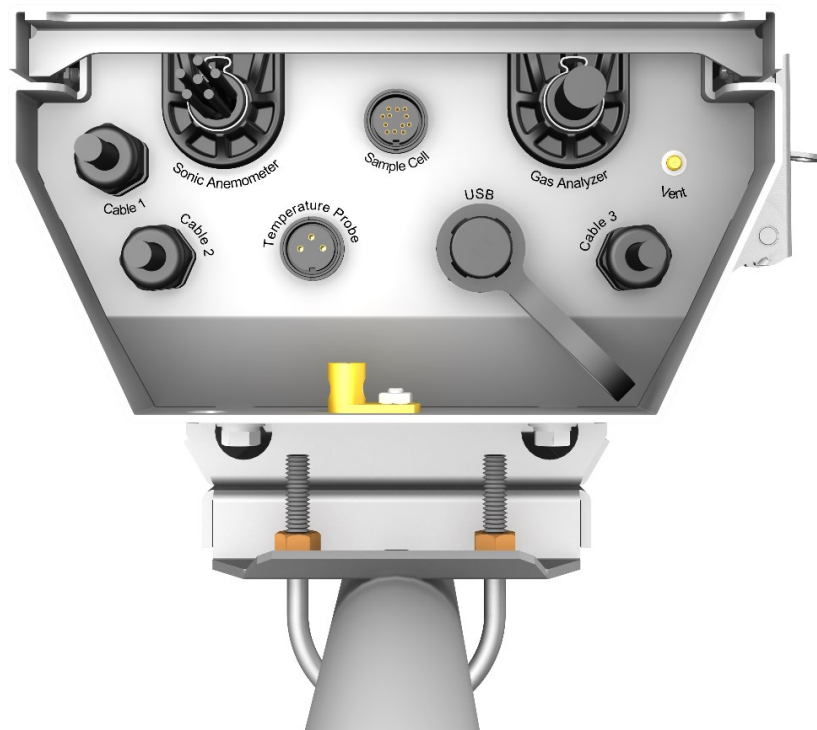

FIGURE 6-6. Base of EC100 enclosure
FIGURE 6-5 (p. 17), FIGURE 6-6 (p. 18), and FIGURE 6-7 (p. 18) show the EC100 electronics panel, the bottom of the EC100 enclosure, and sensor connections to the EC100, respectively. Refer to these figures during wiring and connecting.
4. Connect the IRGASON temperature probe. Unscrew the temperature connector cover, which is found on the base of the EC100 enclosure (see FIGURE 6-6 (p. 18)). Insert the three-prong probe connector into the socket connector on the enclosure and screw it firmly in place. The IRGASON temperature probe cable is approximately 3 m (9.8 ft) in length.